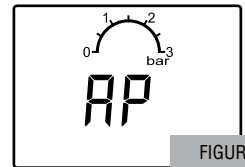

FIGURE 2
- 3.1 Switch the mains power ON and the boiler LED display will show "AP". This puts the boiler into the Air Purge Mode. See Figure 2.